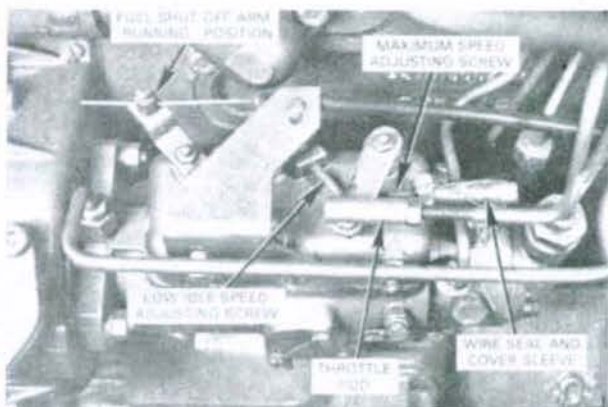

Fig. 93—View of injection pump showing points of adjustment.
The injection pump is a sealed unit and no service work of any kind should be attempted on the pump or governor unit without the use of special pump testing equipment and special training. The only authorized adjustment is of the low idle speed screw (Fig. 93). If additional service work is required, the pump should be turned over to an authorized C.A.V. service station for overhaul. Inexperienced or unequipped service personnel should never attempt to overhaul a diesel injection pump.
97. ADJUSTMENT. The low idle speed adjusting screw (Fig. 93) should be adjusted with engine warm and running, to provide the recommended slow idle speed of 725-775 rpm.
The maximum speed adjusting screw (Fig. 93) is set at the factory and the adjustment is sealed. High idle (no-load) speed should be 2135-2185 on Models MF230 and MF240, 2400-2450 on Models MF235, MF245 and MF250.
Before removing the injection pump, thoroughly wash the pump and fuel line connections. Immediately plug all openings in fuel system as lines are disconnected to prevent entry of dirt. Disconnect throttle rod (Fig. 93) and stop cable or rod from pump. Shut off fuel, then disconnect fuel inlet, return and high pressure lines from pump. Remove inspection cover from front of timing gear cover, then remove three cap screws attaching injection pump drive gear to pump shaft. Remove pump flange stud nuts, then withdraw pump.